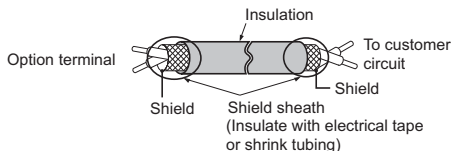
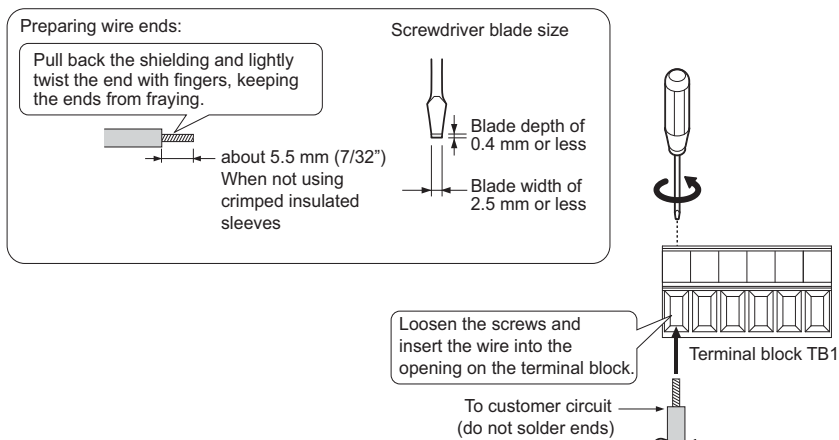

Figure 6 Preparing Ends of Shielded Cable
Figure 7 Preparing and Connecting Cable Wiring
4. Prepare and connect the wire ends as shown in **Figure 6** and **Figure 7**. Refer to **Wire Gauges, Tightening Torques, and Crimp Terminals on page 20** to confirm that the proper tightening torque is applied to each terminal. Take particular precaution to ensure that each wire is properly connected and wire insulation is not accidentally pinched into electrical terminals.